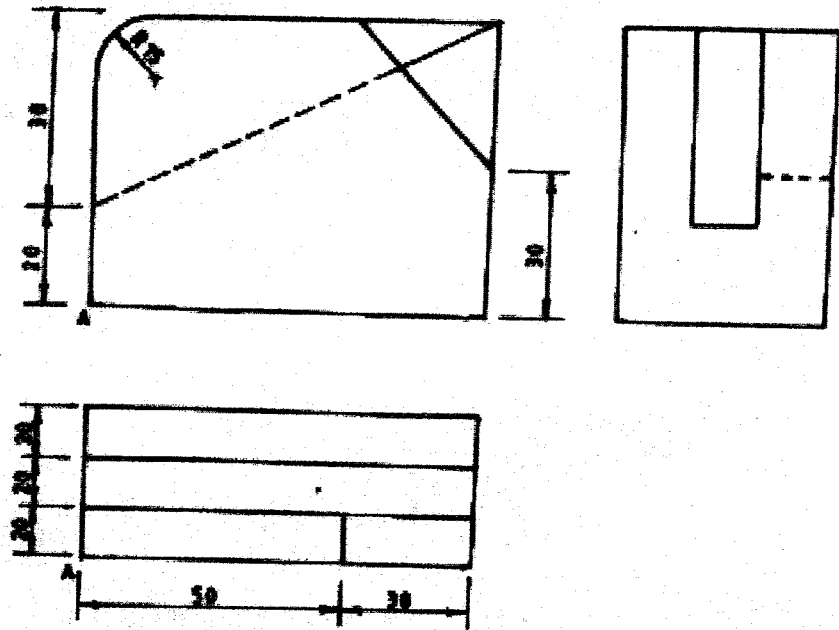

Fig. 5
5. Figure 5 shows three views of a block. Draw an isometric view of the block with corner A as the lowest point. (15 marks)